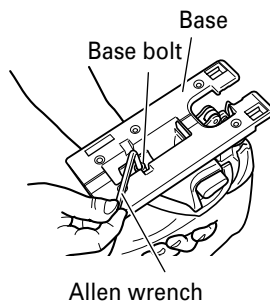

Fig. 15
- (1) Loosen the base bolt by allen wrench attached on base. (Fig. 15)
- (1) Loosen the base bolt by allen wrench attached on base and move the base fully forward. (Fig. 15, 16)
- (3) Tighten the M5 bolt again. (Fig. 15)
- (4) Set the orbital position to "0".
- (1) Remove the allen wrench from the base.
- (2) Move the base fully forward. (Fig. 15, 16)
- (3) Attach the chip cover.